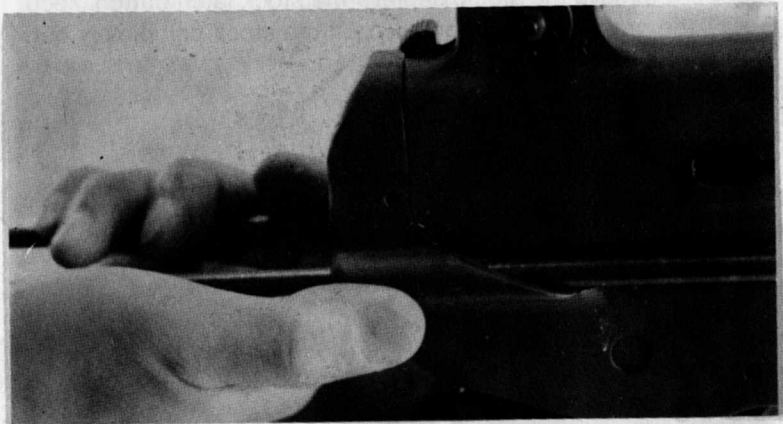

Fig. 5
- To extend the stock fully from halfway position, hold the rifle in the left hand while depressing the stock latch button and extend the stock with the right hand. (Fig. 5)